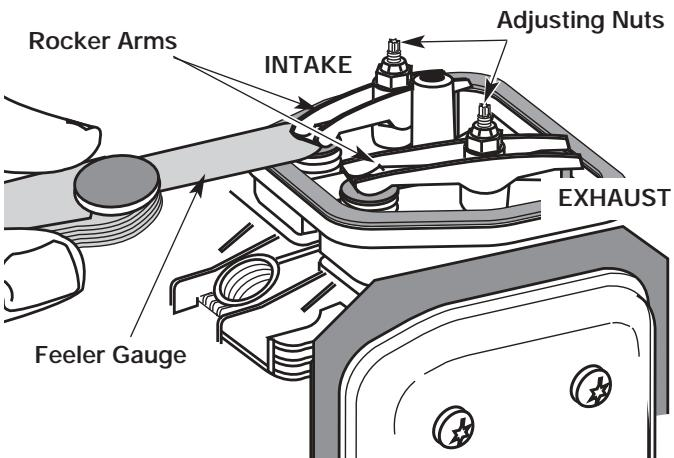

Figure 54
9. Slide the feeler gauge between the rocker arm and the valve return spring. Measure the clearance between the valve stem and rocker arm. See Figure 54. Measure both the intake and exhaust valves.
The recommended clearance for both intake and exhaust is .003 – .006 in. (.076 – 0.152 mm). Use a standard automotive .005 in. (0.127 mm) feeler gauge. The feeler gauge should slide between the rocker arm and valve stem with a slight amount of resistance, without binding. See Figure 54.